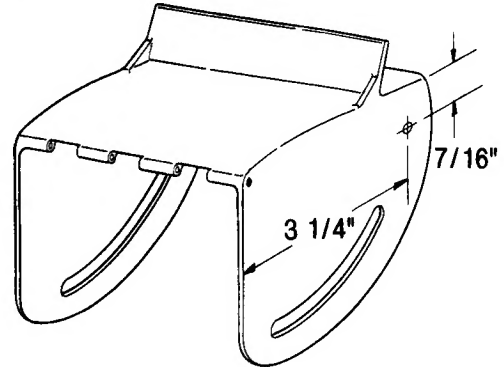

FIGURE 3
STEP 5: Drill 1/4" hole in deflector as shown in figure 3. Insert eyebolt and retaining hardware into hole, do not overtighten, the eye-bolt must pivot smoothly and freely as the deflector moves up and down.